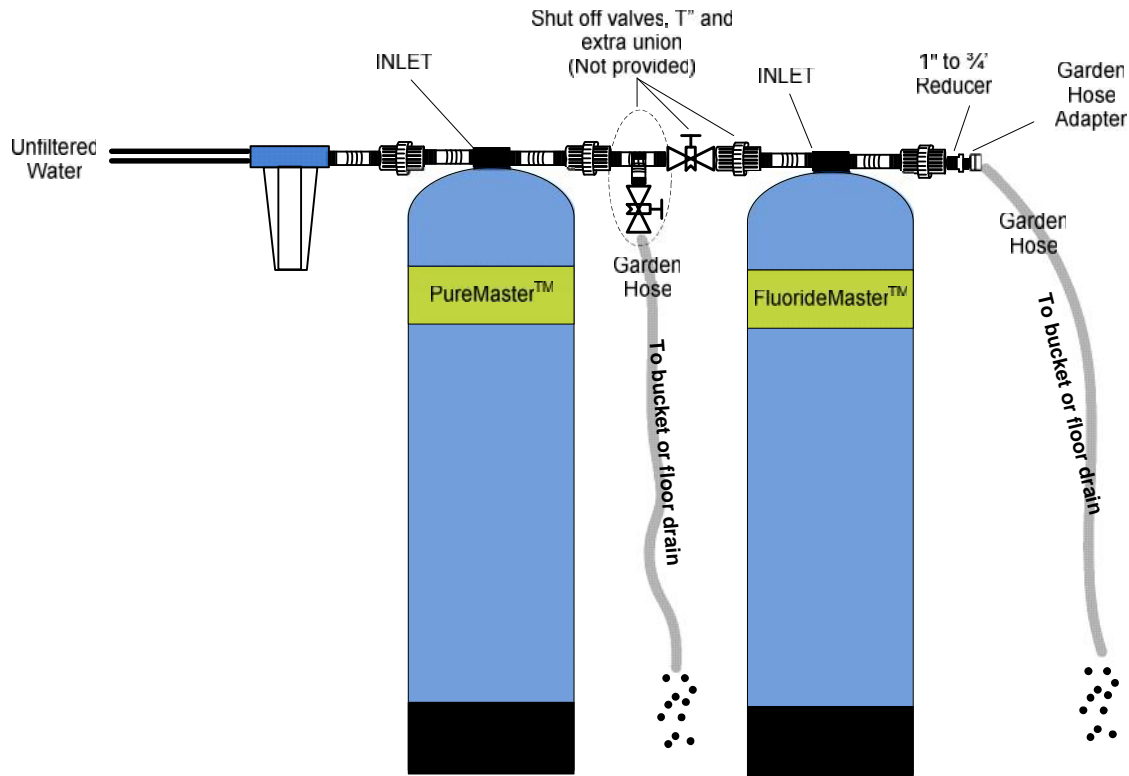

Figure 2
1. Complete all connections to PureMaster™ and FluorideMaster™ (See Figure 2)